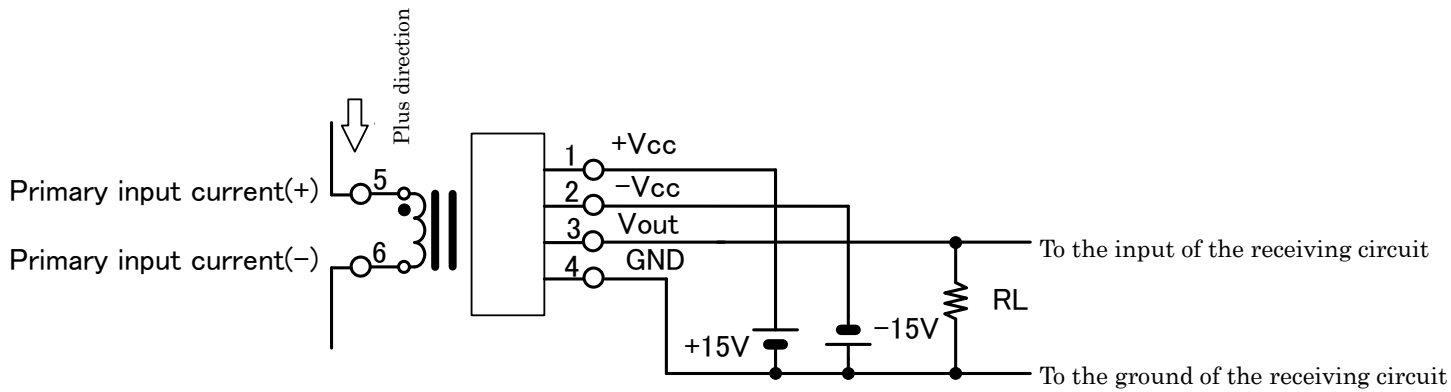

Fig. 2: L12P025D15 Standard circuit
### □ Description of Fig. 2
This current sensor converts a measured current into a voltage. The output voltage  $V_{out}$  (3) in Fig. 2 is output on the basis of the GND potential. When the current to be measured is 0,  $V_{out}$  (3) = 0V. When the current to be measured is in the plus direction ((5)  $\Rightarrow$  (6)),  $V_{out}$  (3) becomes + (voltage converted from the measured current). When the current to be measured is in the minus direction ((6)  $\Rightarrow$  (5)),  $V_{out}$  (3) becomes – (voltage converted from the measured current).
$R_L = 10 \text{ k}\Omega$  in Fig. 2 is the equivalent resistance of the receiving circuit of the current sensor output  $V_{out}$  (3). The load resistance between the  $V_{out}$  terminal (3) and the GND potential (4) is standard  $10 \text{ k}\Omega$ .